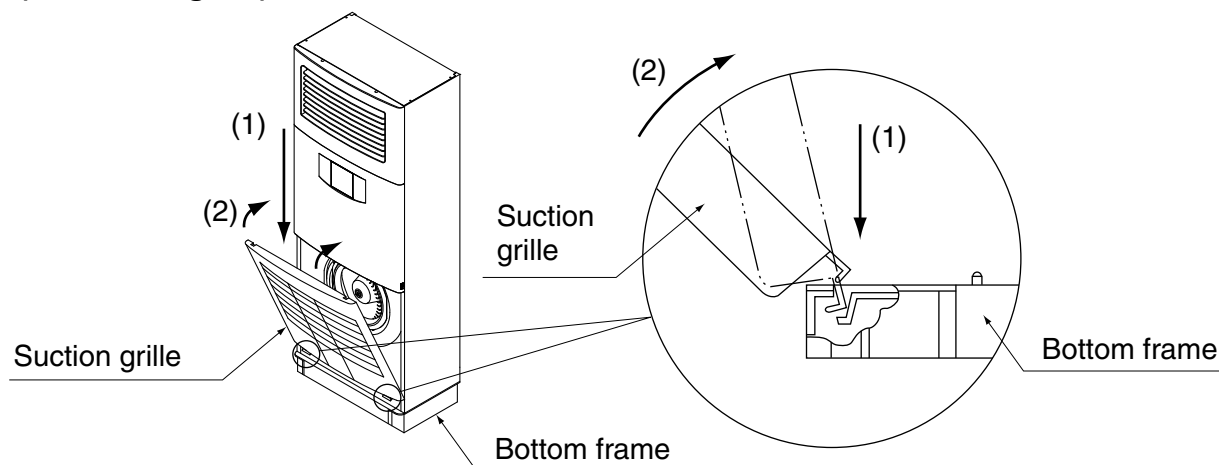

Fig. 40
1. Hook the suction grille on the groove on the unit's bottom frame in the order of (1)→(2). (Refer to Fig. 40)